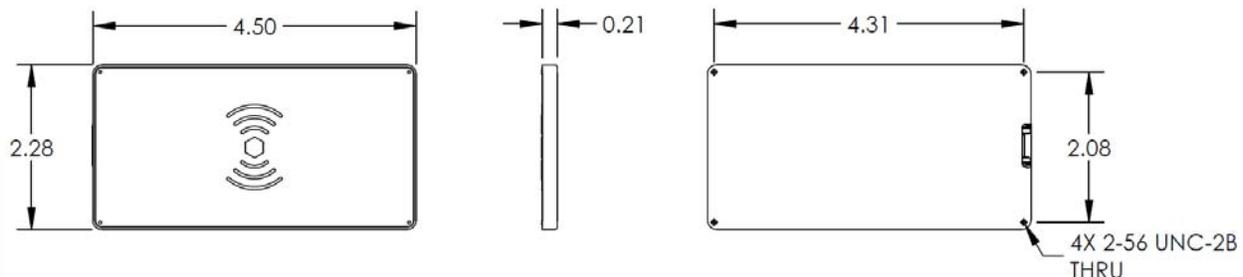

Figure 1.1
The TWC15 wireless charger family provides three different configurations, each an integrated component contained in a metal enclosure that can be mounted in many different aircraft locations with a variety of mounting options/alternatives. All units utilize the same external connection that provides for power input and return, a line for enabling the charger and lastly a dedicated line for providing operating status of the wireless charger. Each wireless charger features four (4) threaded holes designed for attachment with 2-56 screws. Refer to Figures 1.1, 1.2 and 1.3 for specific unit dimensions.